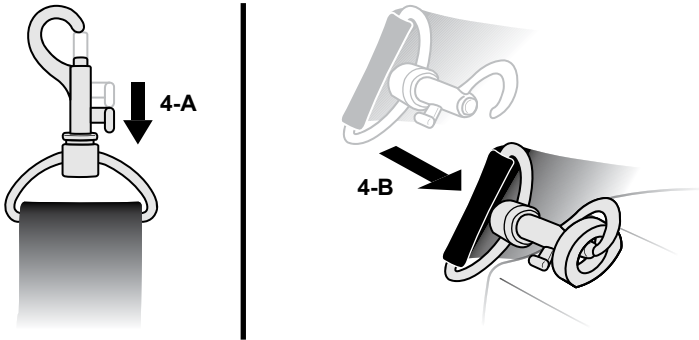

FIGURE 4
1. Grasp clasp on one end of Shoulder Strap. Press lever down to open clasp, and continue to hold open (FIGURE 4-A).
2. Thread clasp through one of the strap bases (it does not matter which one), then release lever to close clasp (FIGURE 4-B).